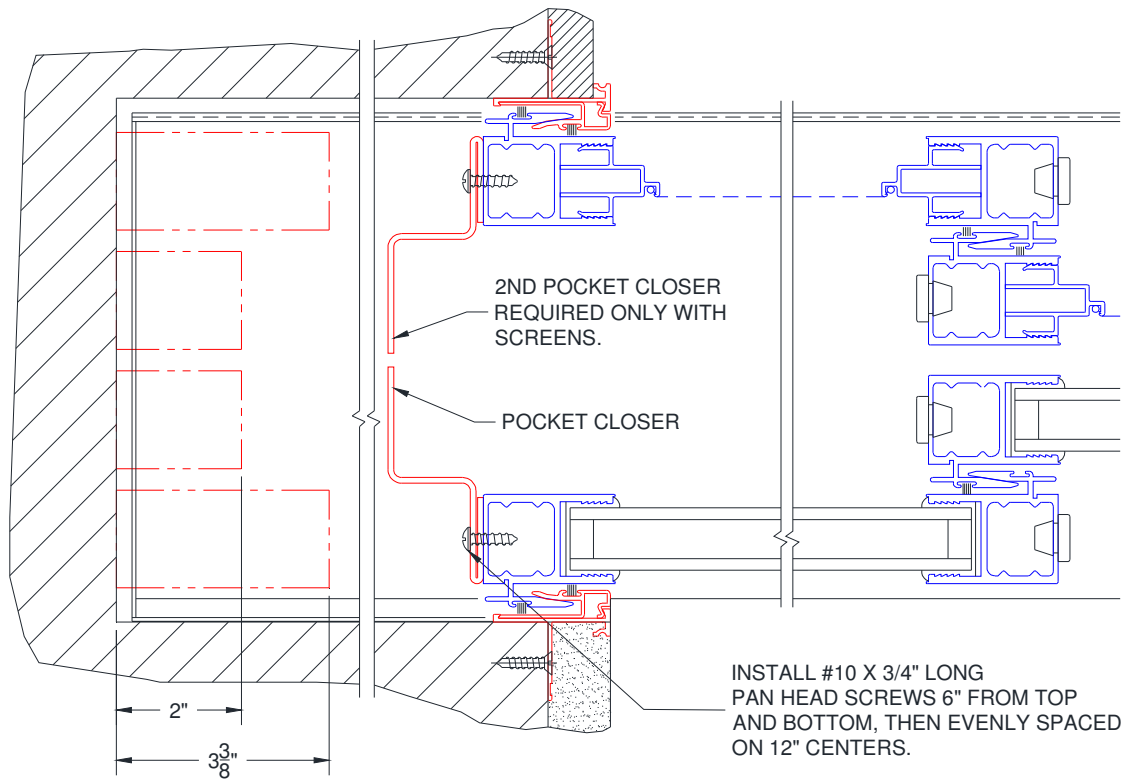

Figure 13:
2. Holes to be located 6" from top and bottom of pocket closer, then evenly spaced on 12" centers. Assemble pocket closer to back side of interlocker with #10 x 3/4" long pan head screws (Figure 13).